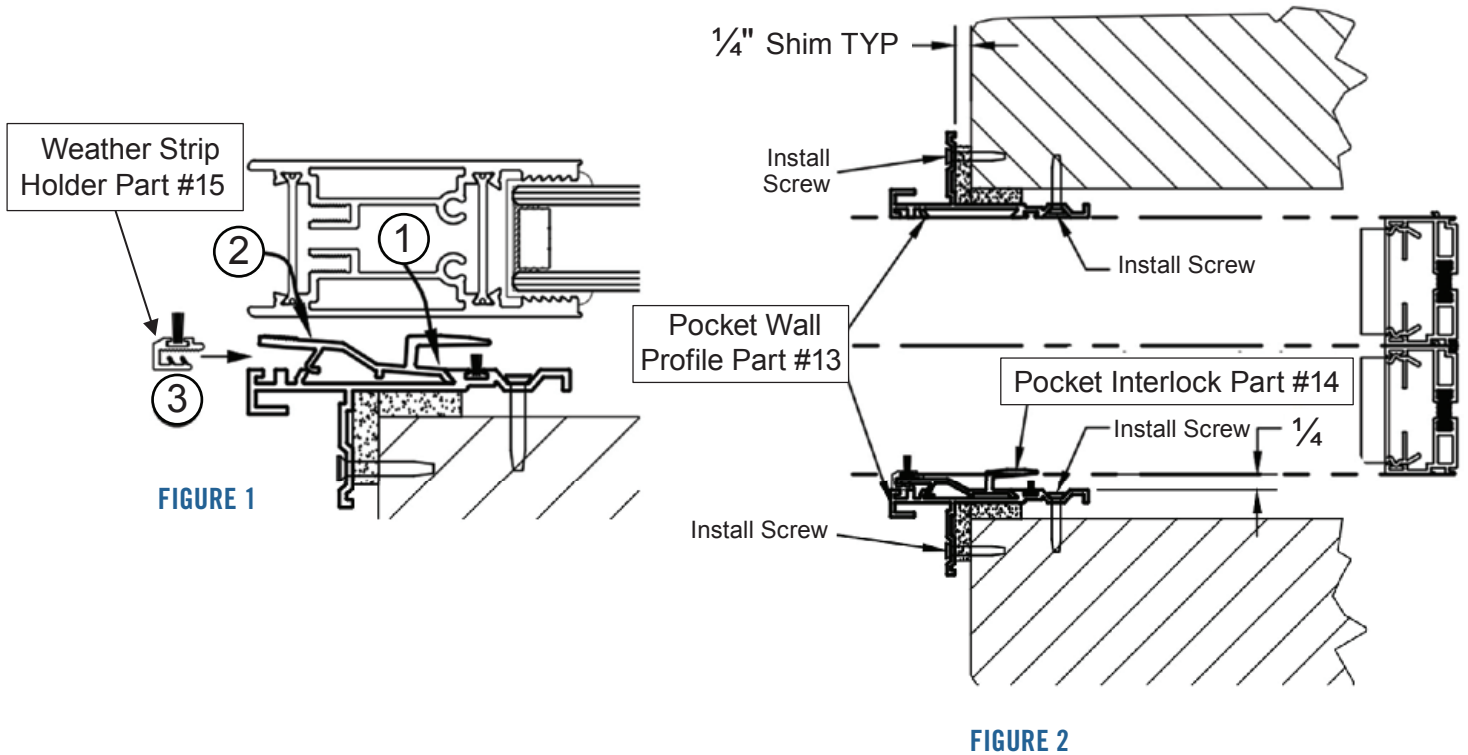

**FIGURE 1**
19. Now install the pocket interlock (Part #14) using the steps and Figures 1 & 2 below: